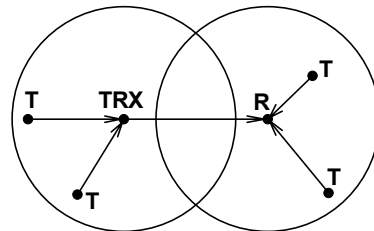

Fig.1
- Required distance between transmitter and receiver being greater than useful operating range of radio equipment thus requiring retransmitting of signals, as on fig. 1;